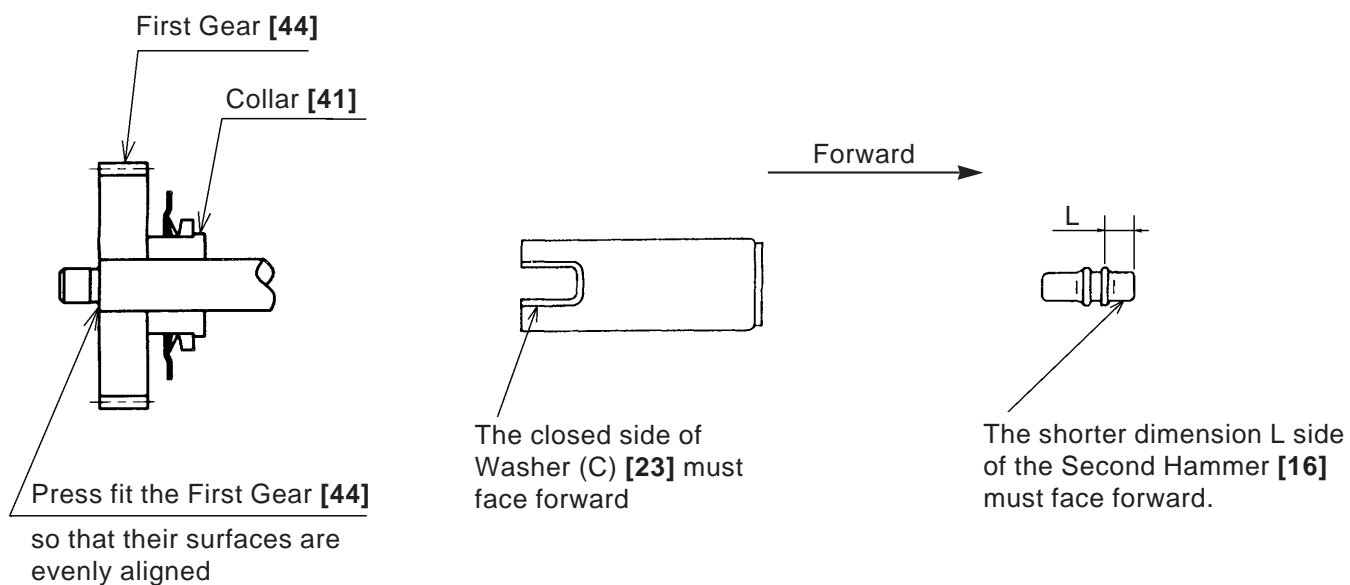

Fig. 3 Installation direction of various parts
- (5) When installing Washer (C) [23] and the Second Hammer [16], be very careful to ensure they are installed in the proper direction. (See Fig. 3)
- (6) When pressure fitting the First Gear [44], ensure that its surface is flush with the surface of the Second Pinion [36]. At this time, also check to ensure that there is a slight clearance between the Collar [41] and the First Gear [44] to allow the Collar to rotate. (See Fig. 3)
- (7) During reassembly, coat JF-375 grease on the following places. Also insert 50 g of JF-375 (Code No. 930037) grease around the Reciprocating Bearing [40].